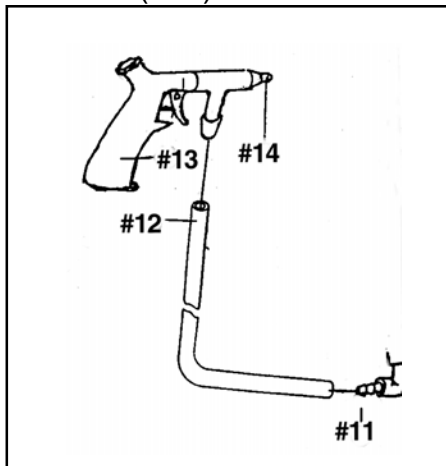
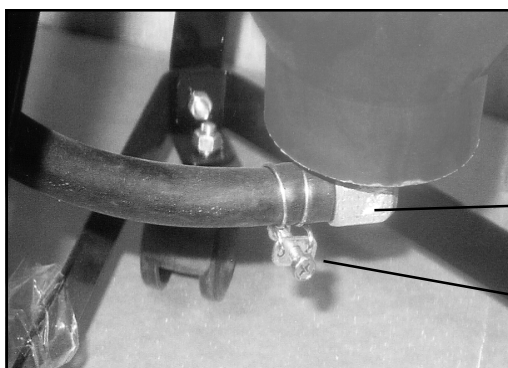

Figure 4
Figure 5
6. Connect the Abrasive Blaster Gun (#13), Suction Hose (#12) as is illustrated in **Figure 4**. Then insert the other end of the Suction Hose (#12) onto the Connector (#11). **See Figure 5.** After attaching Hose Clamp (#15), tighten with philips head screwdriver.